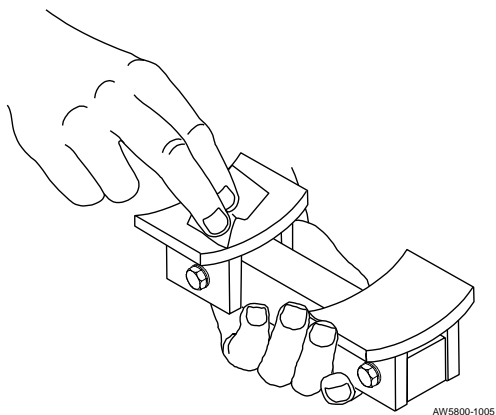

Figure 5. Cleaning Bracket Assembly
- A. Clean the underside of the bracket assembly (P/N: 010-0088-002) with (1) of the supplied alcohol pads (P/N: 350-0035-000). See Figure 5.